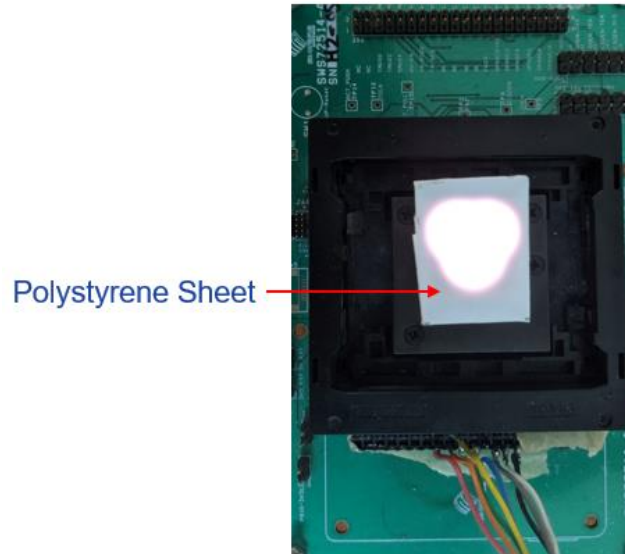

Figure 15: Testing setup with reference material
10. Kindly place the reference material “Polystyrene Sheet” as shown in Figure 15, then press “Done”.